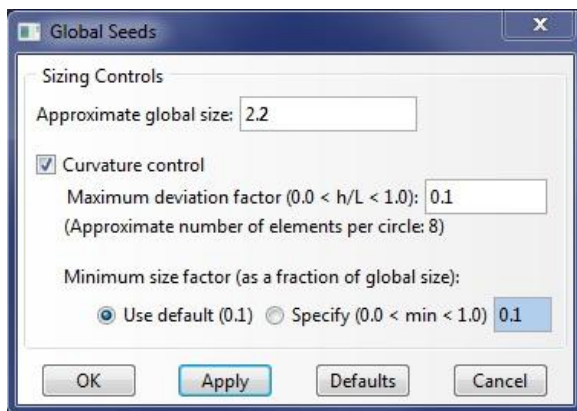
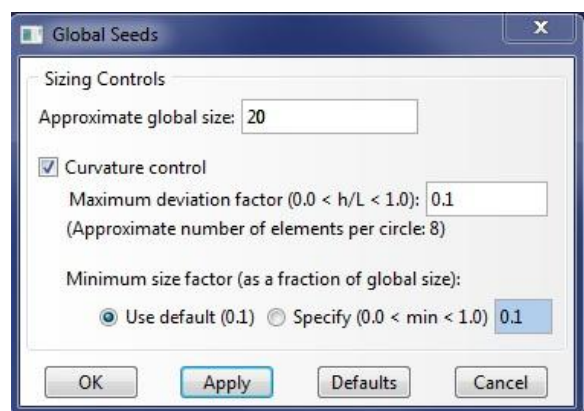

Figure 13a. Global Seeds Dialog Box
Figure 13b. Global Sees Dialog Box (20)
- The first step in creating a mesh is to seed the part. Double click the **Seed Part** icon  in the mesh module and you will be prompted by the **Global Seeds** dialog box (Figure 13a). Change the **Approximate global size** to 20 and click **Apply**. The Global Seeds dialog box should look identical to Figure 13b.